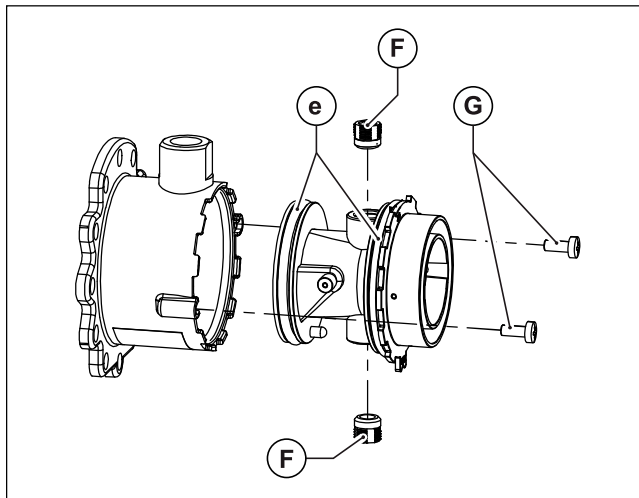
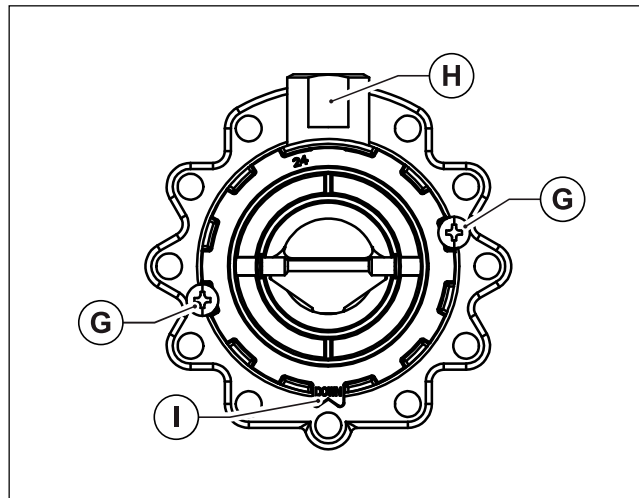

Fig. 28 Mixer plastic body
Fig. 29 Assembling direction
- Loosen the two retaining screws, and slide out mixer plastic body (see Fig. 28 Mixer plastic body).
- Using a 6 mm Allen wrench, loosen the two mixer nozzles (see Fig. 28 Mixer plastic body).
- To refit the plastic body (Venturi), insert it inside mixer and secure it in place with the retaining screws. Take care not to damage the O-rings assembled on plastic body ends (see Fig. 28 Mixer plastic body) and to respect the assembling direction (see Fig. 29 Assembling direction).
- Refit the reassembled mixer onto the fan with the socket head screws, making sure to insert the O-ring between mixer and fan (see Fig. 28 Mixer plastic body).